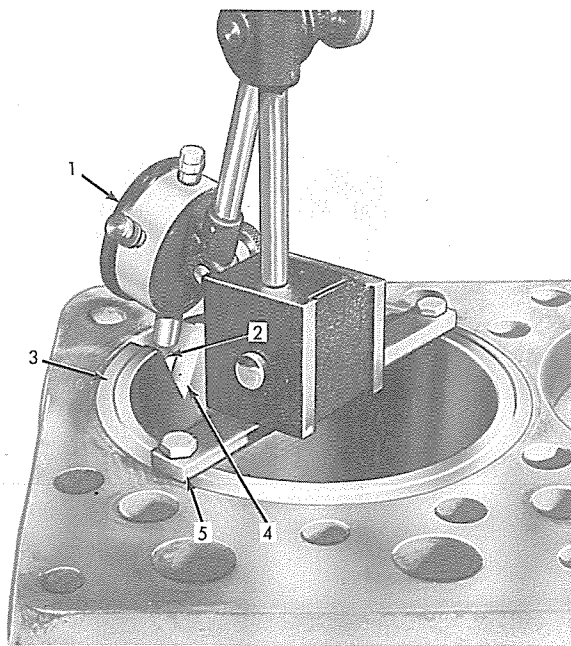

Fig. 6 — Measuring Out-of-Square Relationship of Cylinder Sleeve Counterbore with Center Line of Cylinder
2. Check the out-of-square relationship of the cylinder sleeve counterbore to the center line of the cylinder, using a special sleeve tool with an attached dial indicator as shown in Fig. 6.
(2) of the dial indicator, contacting the bottom of the counterbore as shown in Fig. 6. Total indicator reading should not exceed .002". If the total dial indicator reading exceeds the specified limit, reworking of the counterbore is necessary (refer to "CYLINDER SLEEVE RE-SEATING" in this Topic). The special sleeve tool, shown in Fig. 6, is made from a new cylinder sleeve. The sleeve is machined as follows to assure proper relationship between the lower surface of the sleeve flange and the sleeve center line.
- d. Refer to Fig. 6 (4) and cut a V-section out of the sleeve to allow the dial indicator to contract the sleeve counterbore in the cylinder block. Drill and tap two holes in the sleeve and attach a strap or bar (5) as shown.